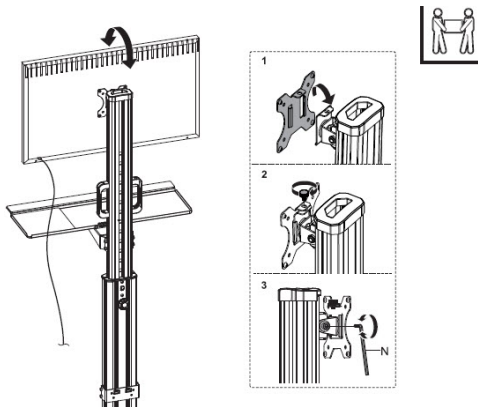

Figure 10
1. (Complete this step with two people) Lift the **Monitor Assembly** and slide the **VESA Plate** down into the tracks on the **VESA Mount (H)** to align the screw hole located on the top of the **VESA Plate** with the hole located on the top of the **VESA Mount (H)**. (Figure 10)
2. Insert the **Thumbscrew**, removed in step one of Remove the VESA Plate from the VESA Mount \(H\), through the screw hole located on the top of the **VESA Plate** and into the **VESA Mount (H)**.
3. Insert the **Hex Screw**, removed in step one of Attach the VESA Mount \(H\), into the screw hole located on the left side of the **VESA Plate** and into the **VESA Mount (H)** then tighten, using the **6 mm Hex Key (N)**.